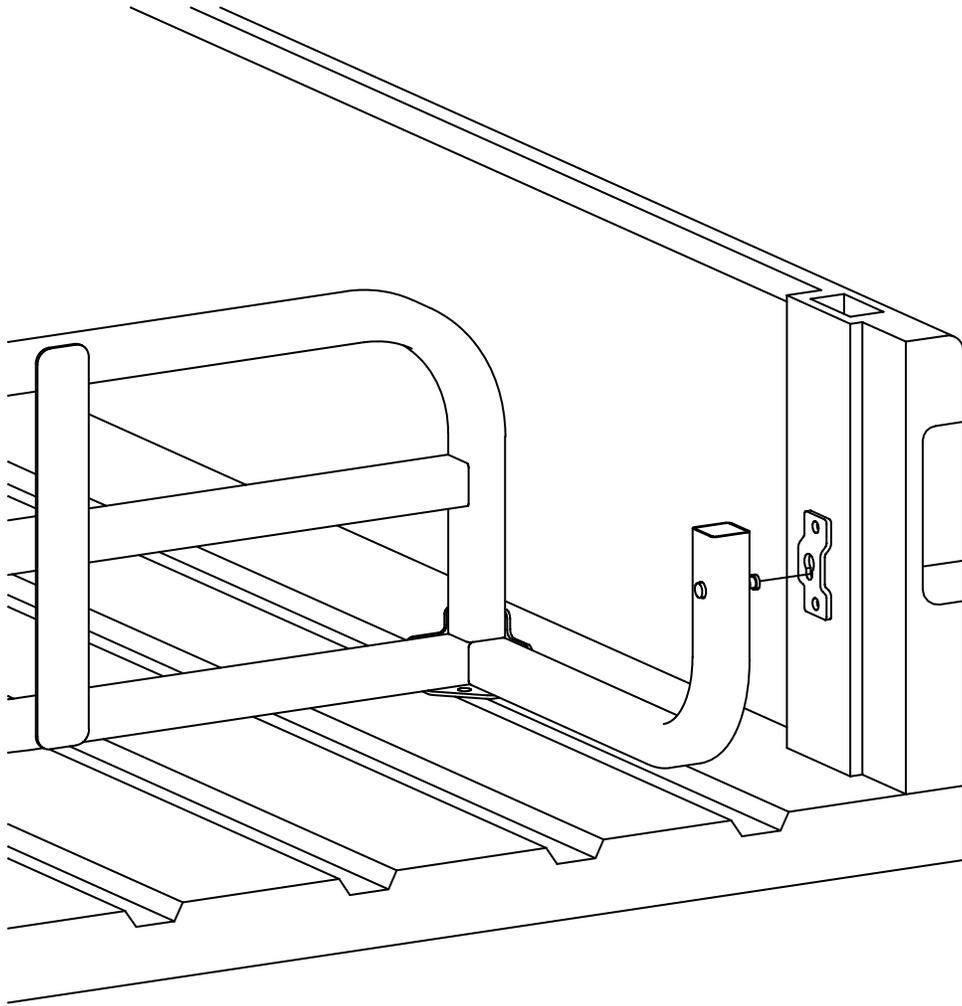

Figure 1
1. Lower the tailgate on the truck. Place Left Ballast Retainer Assembly (1) and Right Ballast Retainer Assembly (2) in the bed of the truck.
2. Slide Left Ballast Retainer Assembly (1) and Right Ballast Retainer Assembly (2) together and extend to the width of the truck bed.
4. Place Mount Plate (A) on Mount Pin and position so that the Mount pin is resting in the small end of the slot of Mount Plate (A). See Figure 1.
9. Insert Nut Plate (3) through the bottom of the truck body panel and align with the holes of Mount Plate (A).
10. Secure Mount Plate (A) with 3/8"-16 X 1-1/2" Hex Head Bolts (D).
11. Remove handle from Nut Plate (3).
12. Place Ballast Retainer Assembly between Mount Plates (A).
13. Extend Ballast Retainer Assembly and place Mount Pins in Mount Plates (A).
14. Insert Hand Screw (C) and tighten.